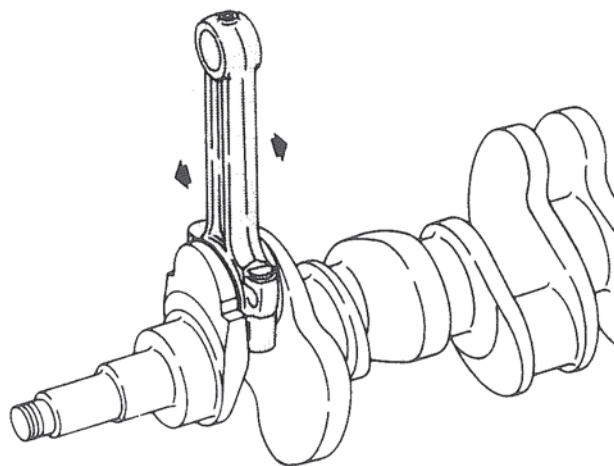

Figure 38. Checking Rod Side Clearance.
3. Slide rod against one side, measure clearance with a feeler gauge. Figure 38. Normal clearance is 0.15 - 0.45 mm., if clearance exceeds 0.60 mm. replace rod.